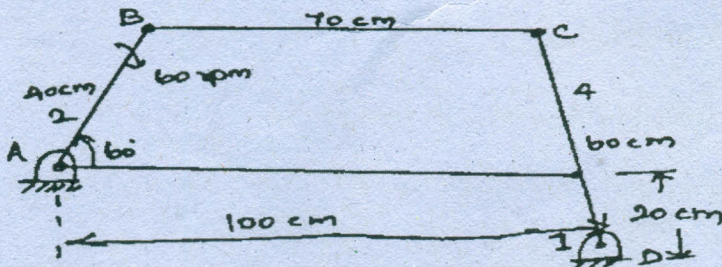

Fig. 3
- (ii) Write short notes on toggle mechanism. (8)
12. (a) (i) The crank AB of four bar mechanism shown in figure. 3. Rotates at 60 rpm clockwise. Determine the relative angular velocities of the coupler to the crank and the lever to the coupler. Find also the rubbing velocities at the surface of pins 25 mm radius and the joints B and C. (8)